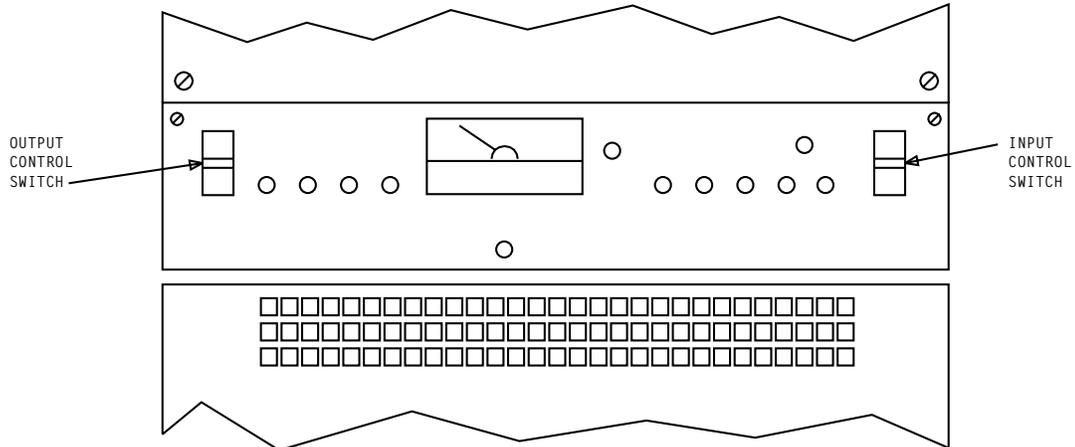

Figure 1. 611N Power Plant - Front View
3. On all converters to be powered down, set the **INPUT** switch to the **OFF** position per Figure 1.
5. On all converters to be powered up, set the **INPUT** switch to the **ON** position per Figure 1.
6. On all converters to be powered up, set the **OUTPUT** switch to the **ON** position per Figure 1.